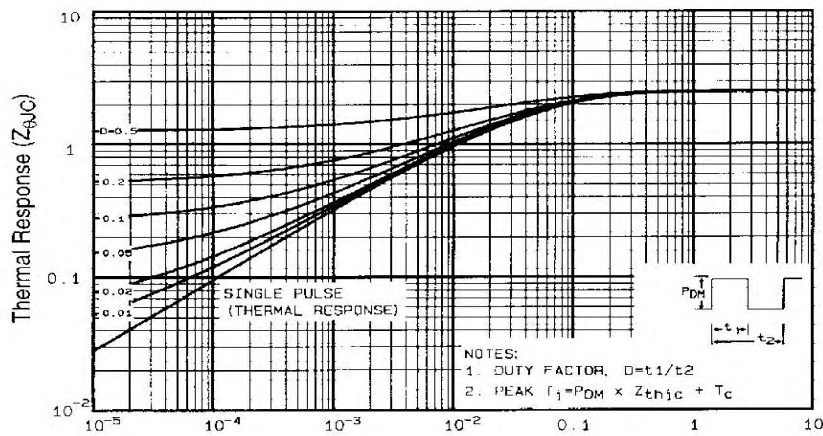

Fig 11. Maximum Effective Transient Thermal Impedance, Junction-to-Case
① Repetitive rating: pulse width limited by max. junction temperature. (See fig. 11)
② $I_{SD} \leq 5.2A$, $di/dt \leq 95A/\mu s$, $V_{DD} \leq V_{(BR)DSS}$, $T_J \leq 150^\circ\text{C}$